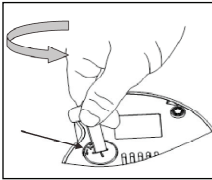

Fig 1
1. Using a flathead screwdriver or similar object (round tip of a knife for bread, for example), turn counterclockwise to clockwise the battery cover which is located on the back of the support base, Figure 1.